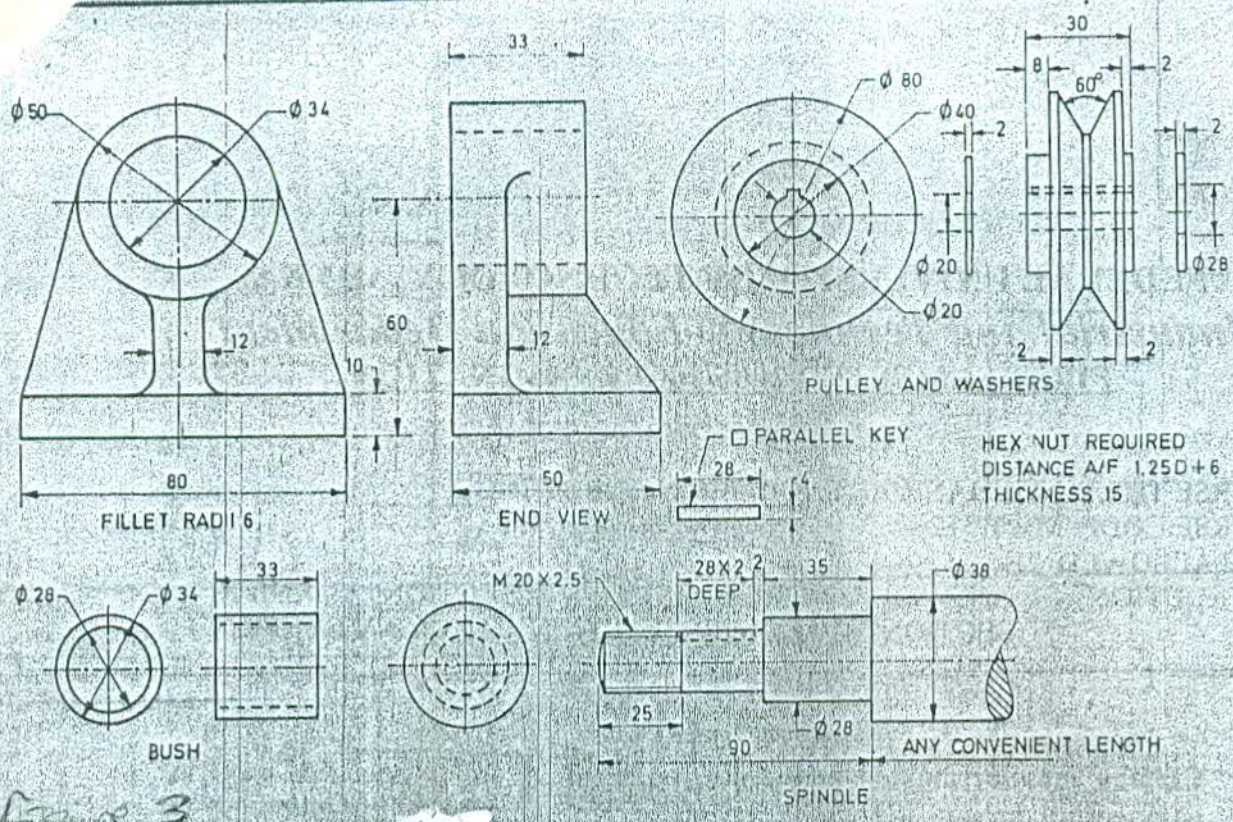

Figure 3
5. The component parts of a bearing bracket are shown in Figure 3. Produce the end elevation of the assembly drawing.